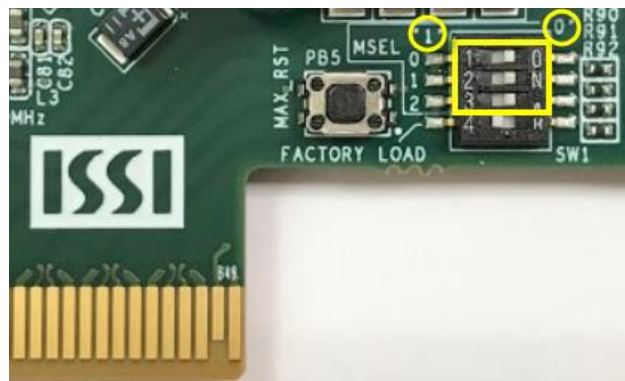

Figure 4-1 SW3 MSEL[0:2]=000
2. Set the FPGA configuration mode to FPPx32 mode by setting SW1 MSEL[0:2] as 000 as shown in **Figure 4-1**.